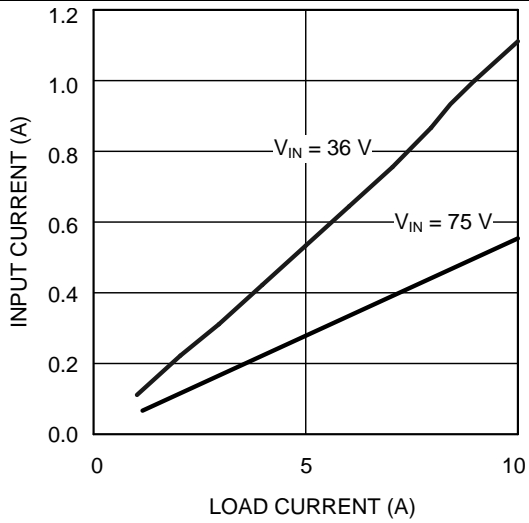

Figure 12. Input Current vs Load Current and V_{IN}
Monitoring the input current provides a good indication of the operation of the circuit. If an overload condition should exist at the output (a partial overload or a short circuit), the input current would rise above the nominal value shown in Figure 12. Transformer T2, in conjunction with D3, R9, R12 and C10, provides a voltage to pin 8 on the LM5030 (CS) which is representative of the input current flowing through its primary. The average voltage seen at pin 8 is plotted in Figure 10. If the voltage at the first current sense comparator exceeds 0.5 V, the LM5030 disables its outputs, and the circuit enters a cycle-by-cycle current limit mode. If the second level threshold (0.625 V) is exceeded due to a severe overload and transformer saturation, the LM5030 will disable its outputs and initiate a softstart sequence. However, the very short propagation delay of the cycle-by-cycle current limiter (CS1), the design of the CS filter (R9, R12, and C10), and the conservative design of the output inductor (L2), may prevent the second level current threshold from being realized on this evaluation board.